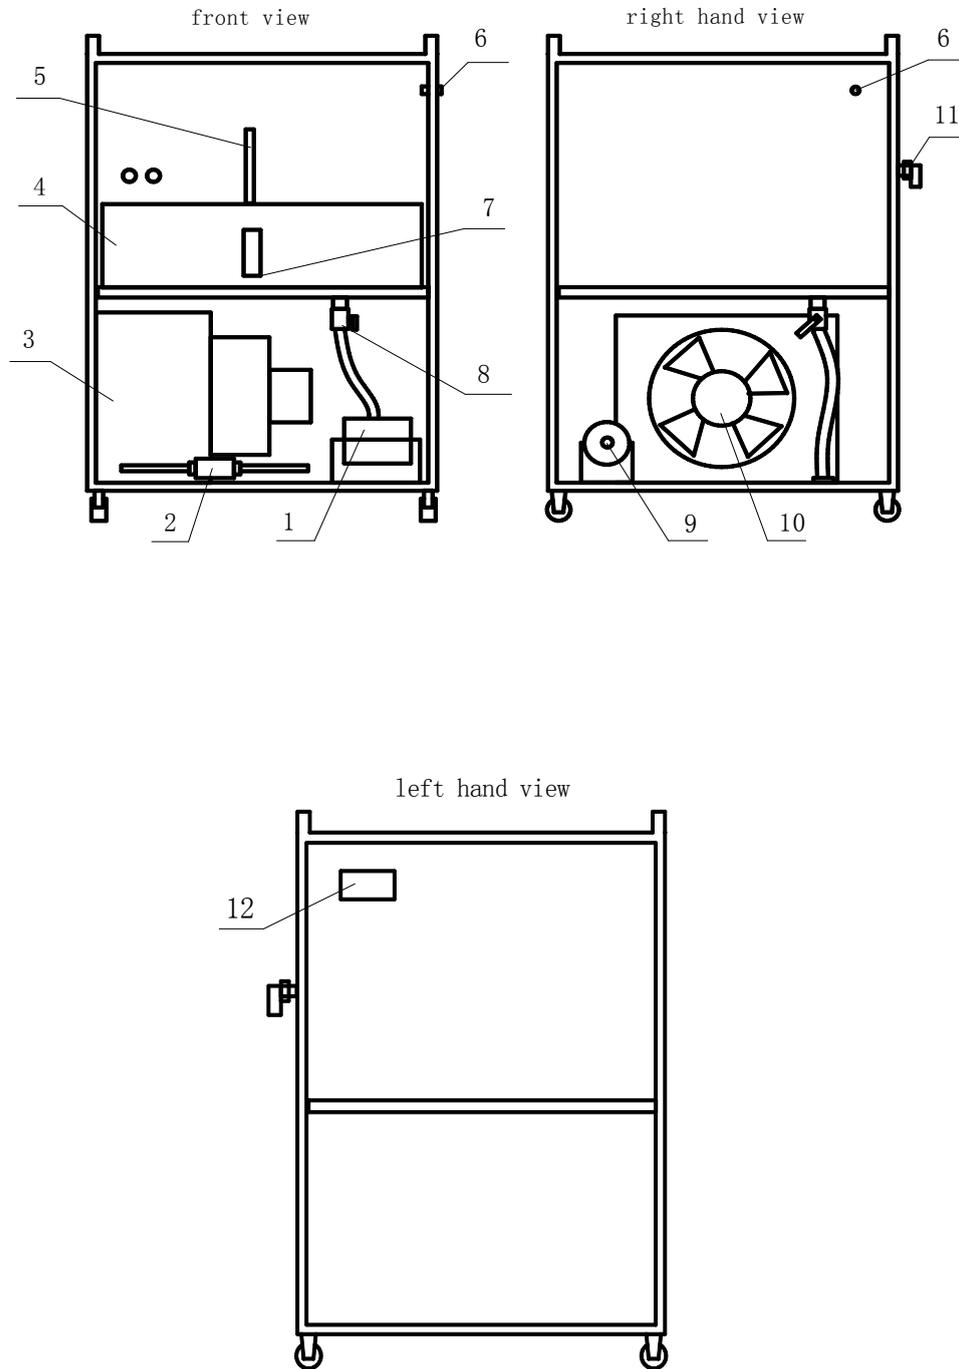

Figure 5
6. Operating steps: First, install the main machine、inductor、water tank、lifting frame according to the installation diagram (figure 4), install the tank follow instruction 3rd and 4th. Then put the bottles whose caps screwed tightly and loaded with aluminum foil already on the conveyor belt. Adjust the lifting frame to make the bottles could pass through the bottom side of the inductor, meanwhile adjust the centering device of the conveyor belt and the inductor to make the bottles' center line (the centre point of aluminum foil A, figure 5&6) aim at the heat inductor's center line (point C, figure 6&7). When centring adjustment finished, indicator on the main board shows yellow (this means the power and circuit are both at normal status). Press the start button (9th button in figure 2), then the working indicator shows green light, this means the machine is in running status meanwhile the intelligent tank starts to work. Adjust the output voltage (its value accords to the actual condition) and the speed of the conveyor (accords to the actual condition). When the bottles pass through the inductor head, they were sealed automatically well. In order to get the best performance, the operator should find out the best technology parameters (voltage/height/speed) through a sealing technology test, and record the parameters. Please keep the irrelevant people away from the machine avoiding the parameters being modified. 30 seconds after heating stop, the intelligent tank will stop automatically.
8. Instruction for detector of the tank cooling liquid:(12th figure 5)it detects the flow and temperature of the cooling liquid in the tank in real time.